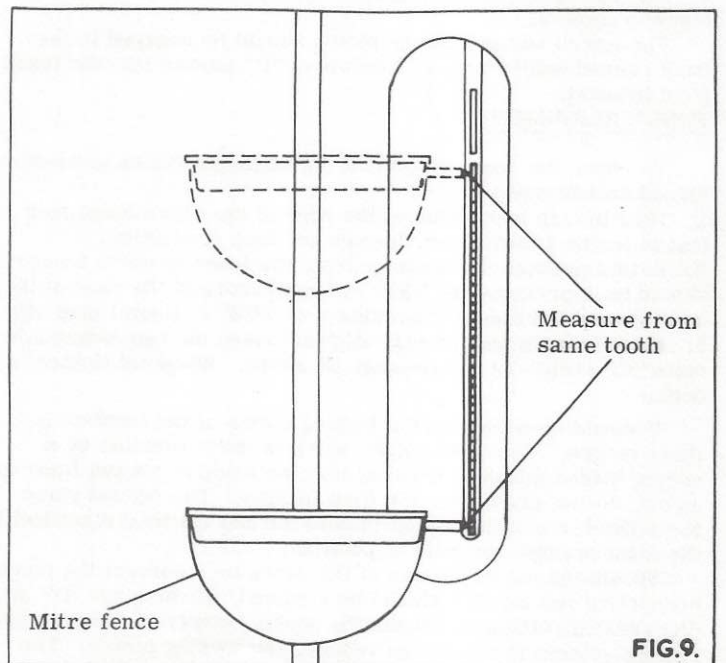

FIG.9.
2. With the saw fitted to arbor, select a tooth and position straight stop rod of mitre fence so that it just touches the saw as shown in fig. 9.
3. Slide mitre fence to rear position of the saw, swing tooth of saw which was used in item 2. Check whether the stop rod touches the tooth by the same amount. Should the slot be out of alignment with the saw, position table until correct.